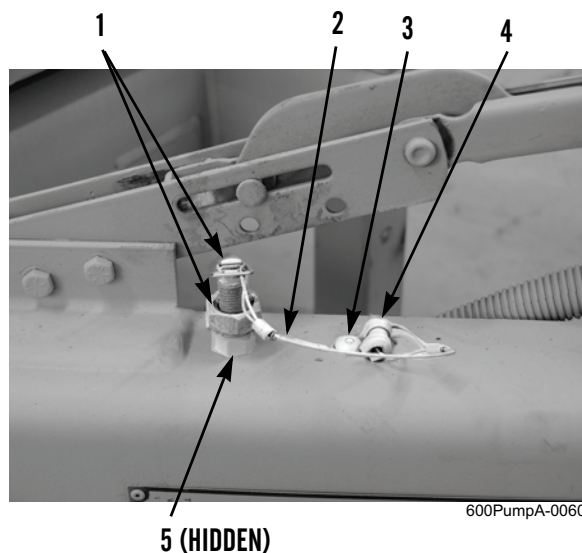

Figure 1. Ground Terminal Stud.
1. Remove nut (Figure 1, Item 5) and ground terminal stud (Figure 1, Item 1) from trailer frame.
2. Drill out rivet (Figure 1, Item 3) and remove clamp (Figure 1, Item 4) with attached lanyard (Figure 1, Item 2) from trailer frame. Discard rivet.